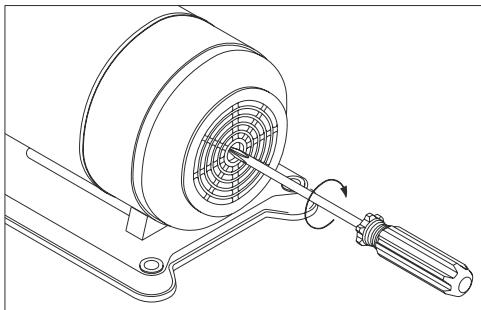

FIG.1
3. Insert a screw driver cross into the shaft slot, and turns the shaft 2-3 rounds to check if the pump runs normally, then open one faucet on the delivery side, then turn the power switch ON.(FIG.1)